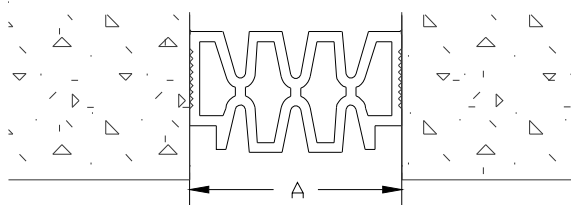

Figure 4
**STEP 4.** Compress the seal, and insert it into the joint, see Figure 4. Ensure that the seal is straight and at the proper depth in the joint.